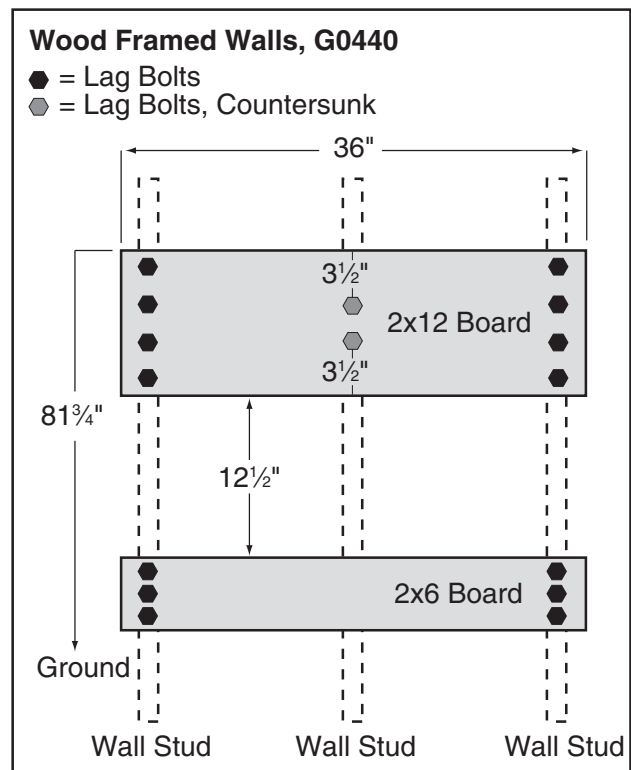

Figure 9. G0440 wall mounting board layout.
1. Secure the wall mounting boards to your wall, using the applicable layout diagrams for your machine and wall type (see **Figures 9–11**).